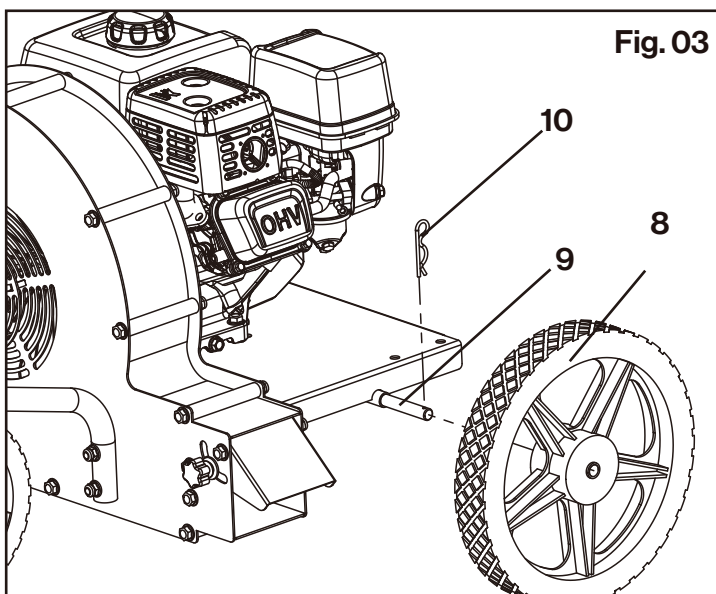

Fig. 03
1. Slide the 12" rear wheels (8) onto both ends of the axle (9).
2. Insert the R-pins (10) into the axle holes to lock the wheels in place. **(Fig.03)**